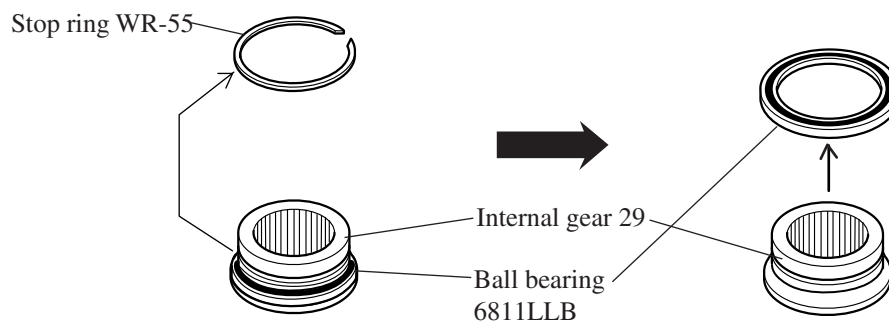

Fig. 21
1) Remove stop ring WR-55 with No.1R003 retaining plier from internal gear 29. The, ball bearing 6811LLB can be removed from internal gear 29 with hand. See Fig. 21.
When assembling ball bearing 6811LLB, take reverse step of Fig. 21.